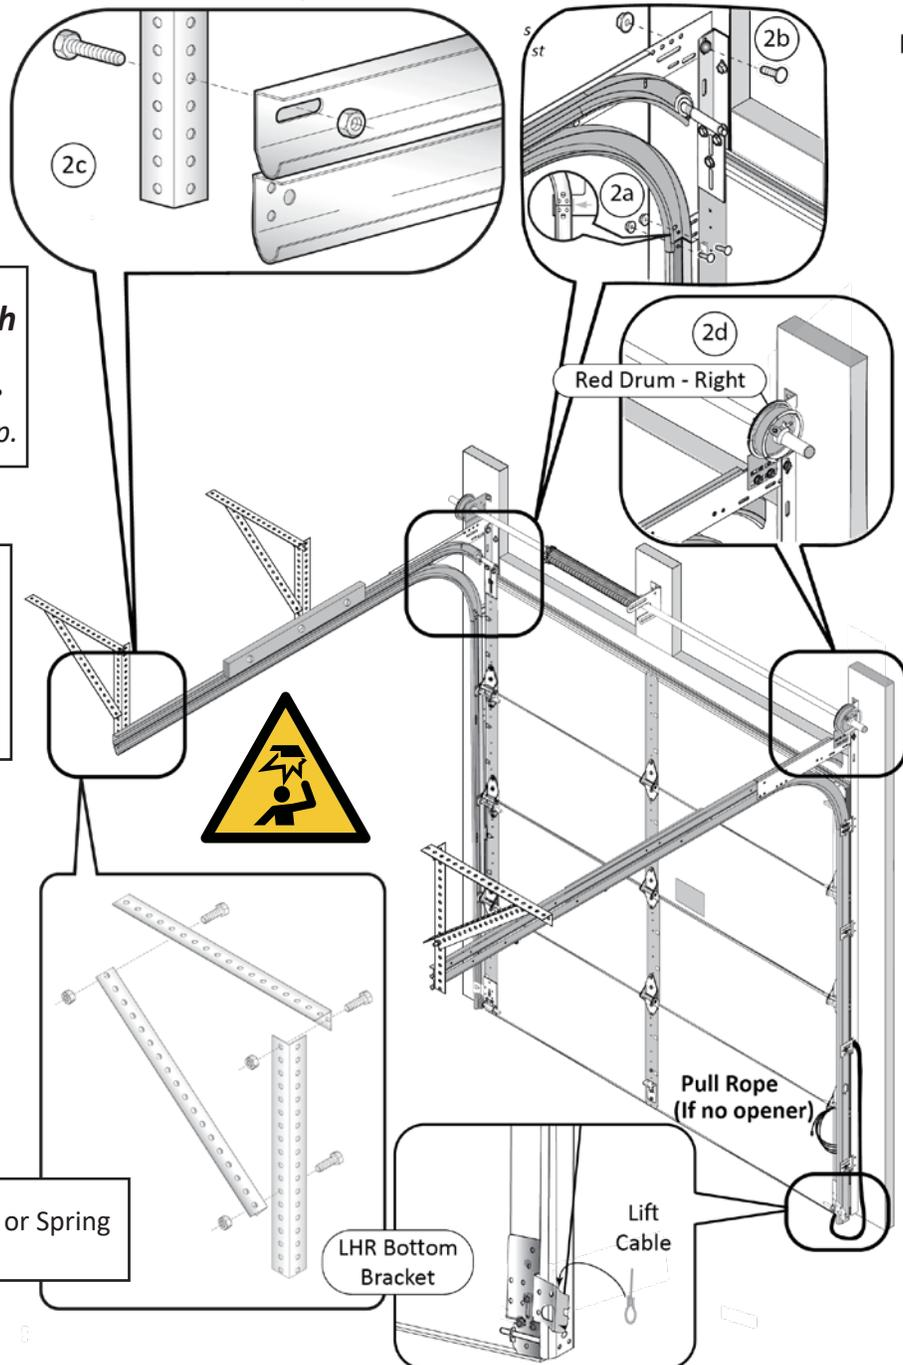

Figure 2
**Step 2:** Attach the Track Hangers as shown on page 27 (left & right). Do not fasten to end of track. Fasten next to the Junction Plate as shown in Fig 2 (right shown).